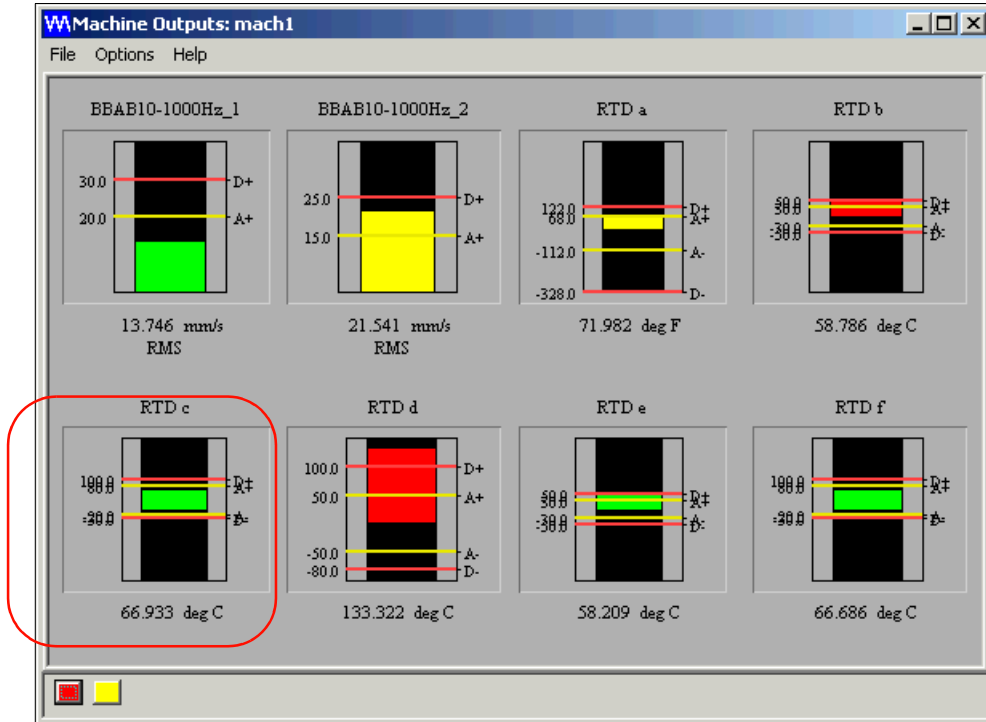

Figure 7-5: Bar chart “RTD c” before correction
- 1- In the example shown in Figure 7-5, the original scaling of the chart for “RTD c” is unsatisfactory as the scale is too condensed.